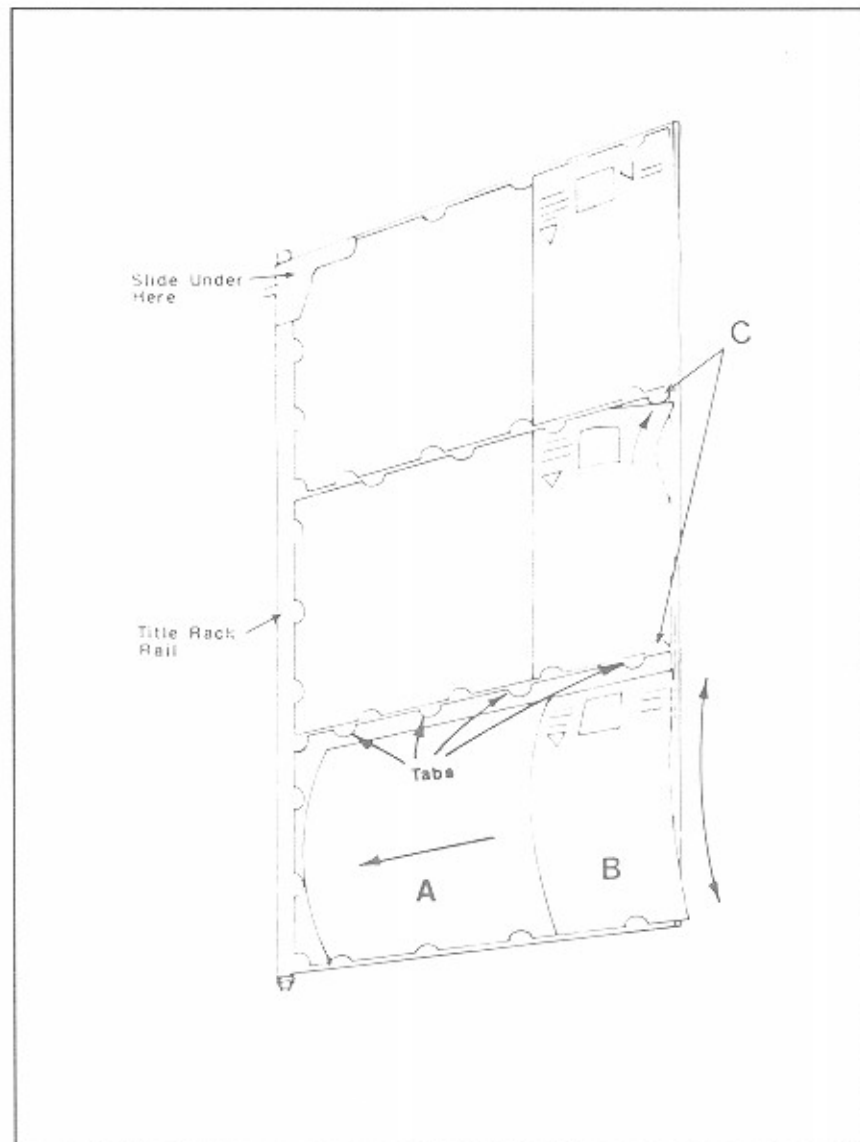

Figure 3-5. Loading the Title Rack
5. Insert the CD booklet under the top and bottom tabs of the title rack. Slide the CD booklet toward the pivot of the title rack until the booklet is trapped by the molded stops on the title page (see figure 3-5, ref A).
6. Insert the folded title strip under the top and bottom tabs of the title rack. Slide the title strip until the disc number shows in the opening of the title strip and the title strip is locked in place by the molded stops (see figure 3-5, ref B).
7. All of the tabs surrounding the CD booklet and title strip should be holding them in place. If you missed a tab, carefully tuck the loose paper under the tab as shown in figure 3-5, ref C.